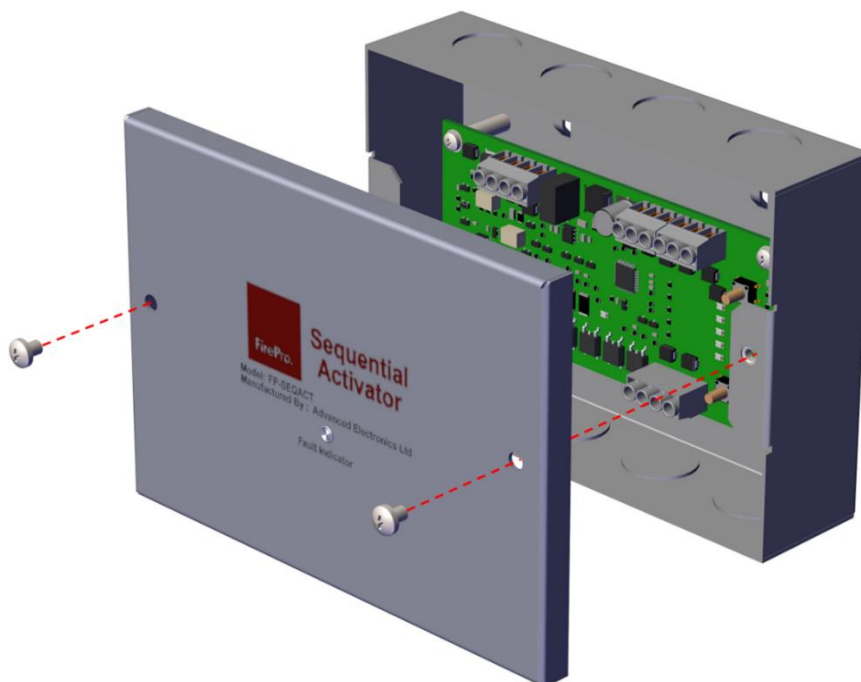

Figure 2 - Remove the enclosure cover.
1. Unscrew the two fixing screws and remove the front cover of the enclosure. See Figure 2.